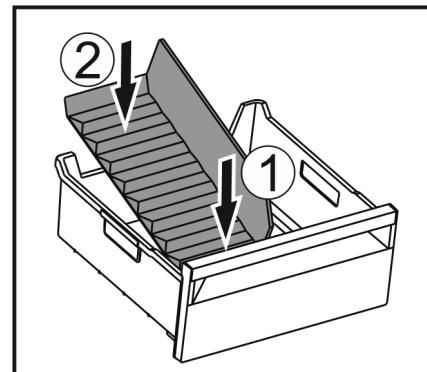

Fig. 118
- ▶ Insert the front part of the ice compartment divider. *Fig. 118 (1)*
- ▶ Lower the rear part of the ice compartment divider to the drawer bottom. *Fig. 118 (2)*